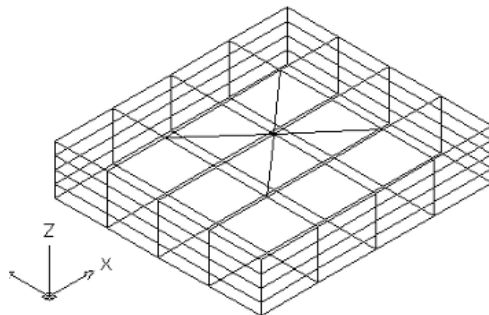

Figure 29-37 The model after splitting
4. Similarly, split the other faces, as shown in Figure 29-37.